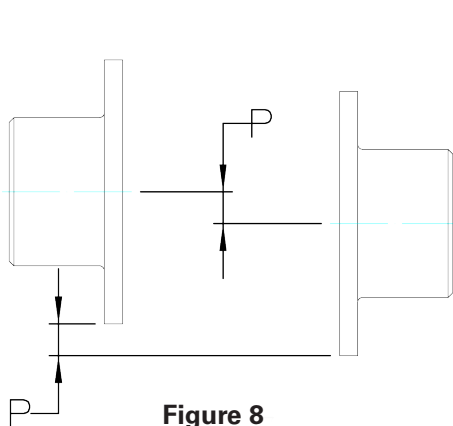
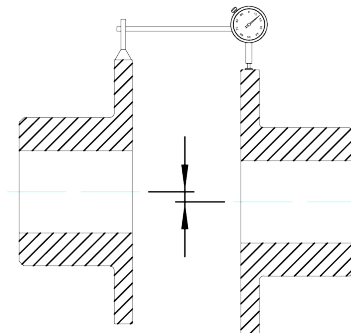
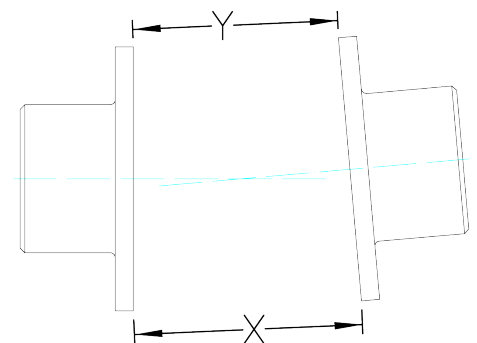

Figure 8
Figure 9
Figure 10
Table 4 shows installation limits for Angular and Parallel Alignment. The Parallel Alignment value "P" is the offset between the centers of the hubs, as shown in Figure 8. If parallel offset is measured by rotating the hubs with a dial indicator on the outside diameter, as shown in Figure 9 the total indicated reading should be divided by (2) to calculate "P". The Angular Alignment Total Indicator Reading value is the maximum difference between the measurements (X-Y) taken at opposite ends of the hub flange, and spacer flange as shown in Figure 10.
CAUTION! a. The Angular Misalignment value is the maximum difference between the measurements X and Y taken at opposite ends of the hub flanges, as shown in Figure 10.
b. The Parallel Misalignment value "P" is the offset between the centers of the hubs, as shown in Figure 8.